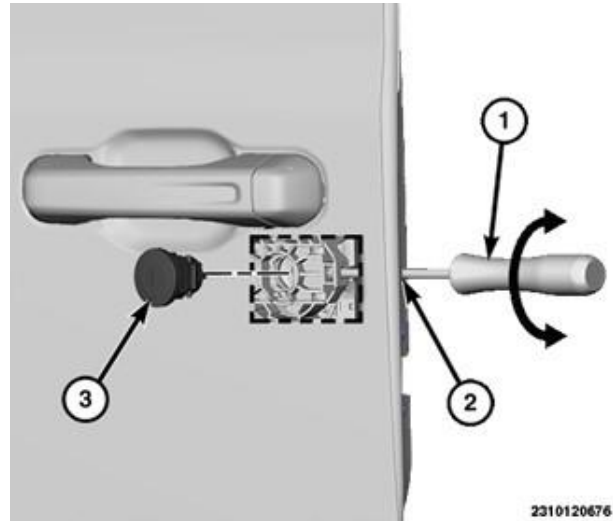

Figure 13 – Door Lock Cylinder
22. Using a suitable tool (1) turn the slide plate screw (2) counter-clockwise to move the slide plate forward in the support bracket. **Do not attempt to remove the slide plate screw** (Figure 13).
23. Continue to turn the slide plate screw (2) while lightly pulling on the lock cylinder (3), until the lock cylinder is removed (Figure 13).
51. Install the lock cylinder (3) to the door (Figure 13).
52. Once the lock cylinder is properly positioned and while pushing the door lock cylinder against the door, use a suitable tool (1) to turn the slide plate screw (2) accessible rearward of the lock cylinder and tighten securely (Figure 13).